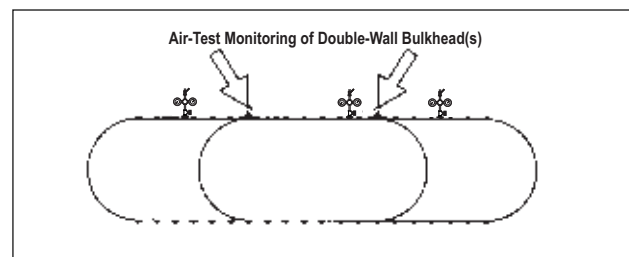

FIGURE 4-4
4.5.6. Install a 4-inch NPT plug with a 0-15 psig gauge (1/4-lb. or 1/10-lb. increments) into each monitor fitting leading into the double-wall bulkhead(s). (See FIGURE 4-4.)